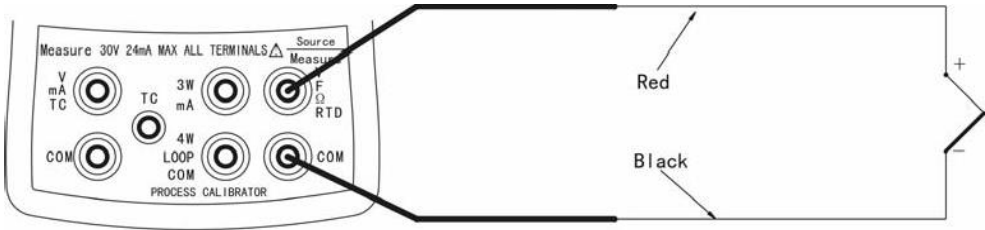

Figure5-8 Measuring Temperature with a TC
- (1) Press  until the lower display shows "measure".
- (2) Press  to select the desired thermocouple type.
- (3) Connect the leads as shown in Figure5-8.